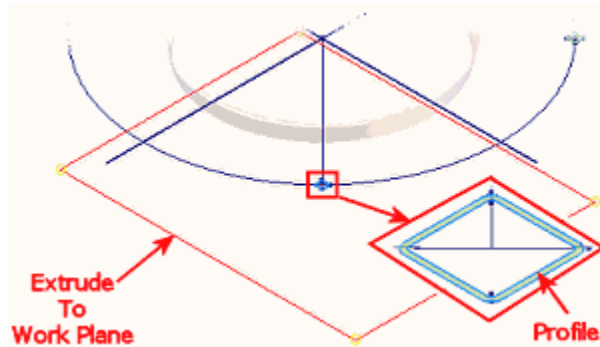

Figure 10: Profile and extent for leg extrude.
10. From the Features panel bar, click the Extrude tool. Extrude the tube profile highlighted in Figure 10.